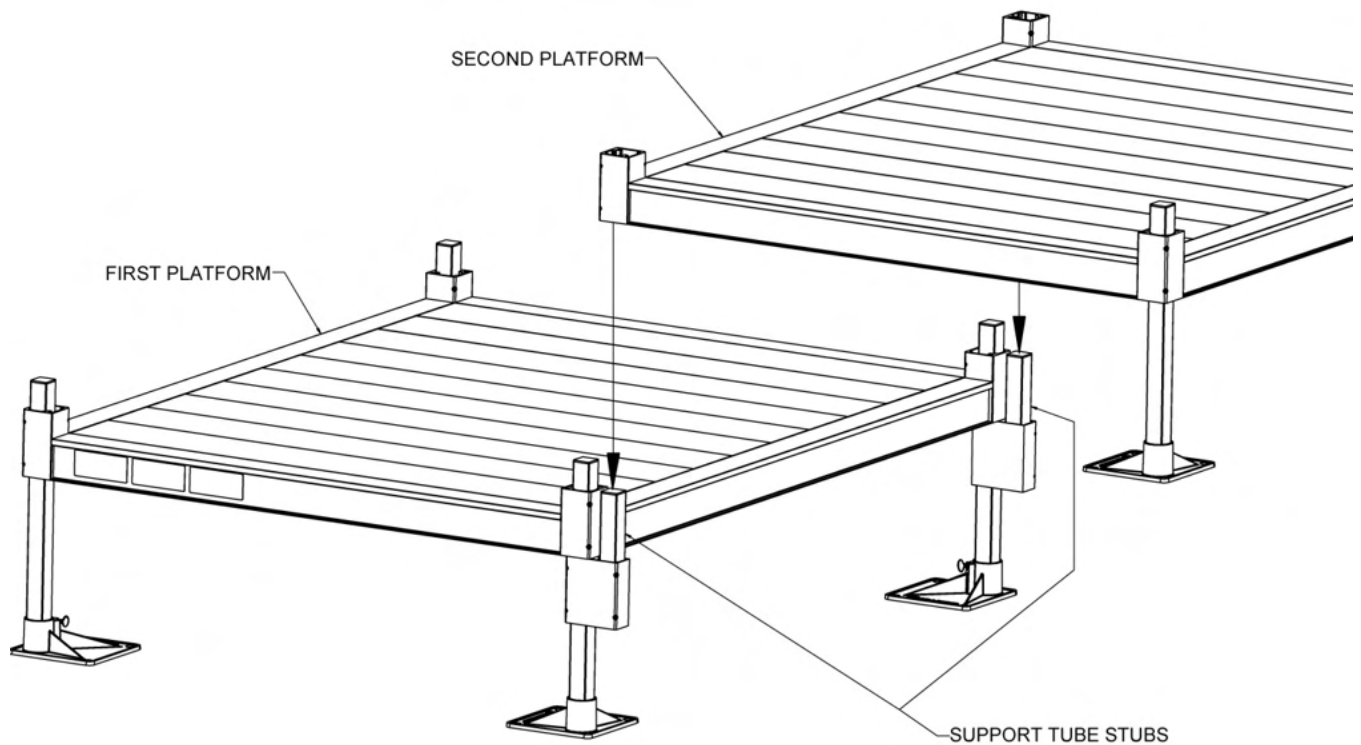

FIG. 2.7
- 2.3.6. Assemble the second platform as described in the previous section except only install support tubes, plugs, and feet on the opposite side of where the platforms will connect (FIG. 2.7).